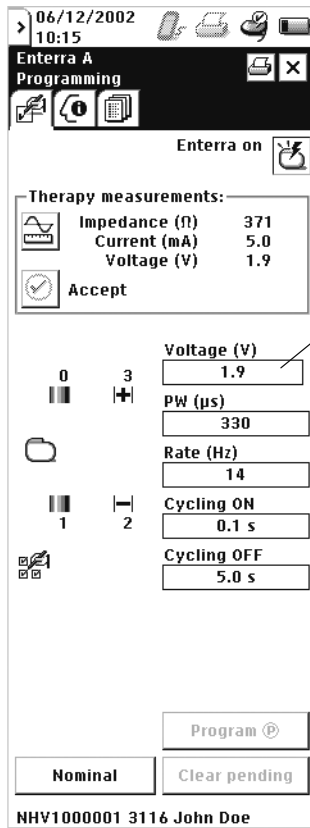

Figure 25. Program voltage.
1. Using the stylus, touch the voltage input box (Figure 25).